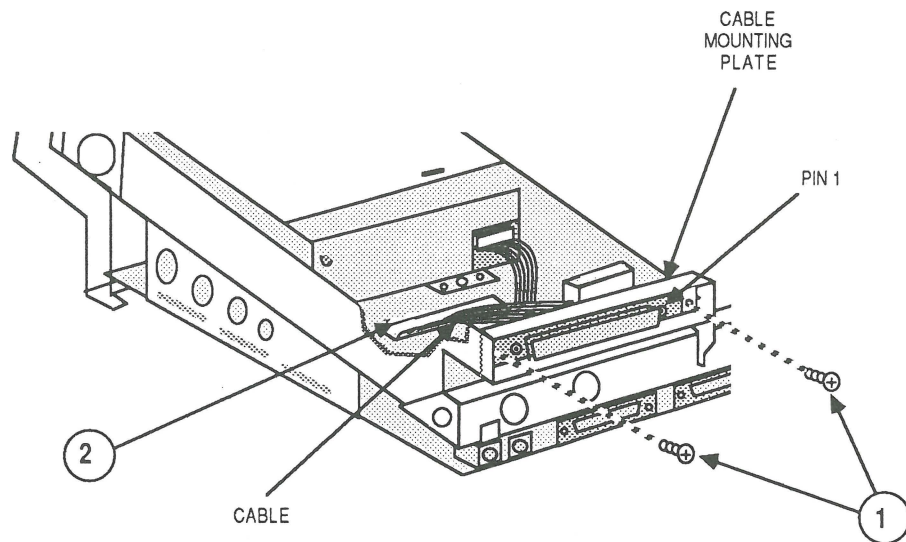

FIGURE 2
- IPL.5 Video Card—Macintosh II Two-Page Monochrome (Figure 2)
6. Stand the Macintosh SE upright so that the back is toward you. Position the mounting plate on the SE-Bus PC Card cable so that the 37-pin connector is facing you, and pin 1 is on the right (see Figure 2; the pin numbers are on the face of the connector). Mount the plate inside the chassis with the two Phillips screws (Figure 2, #1).
7. Route the 26-pin connector on the cable through the rectangular hole (Figure 2, #2) in the chassis bottom, and place the Macintosh SE face down.